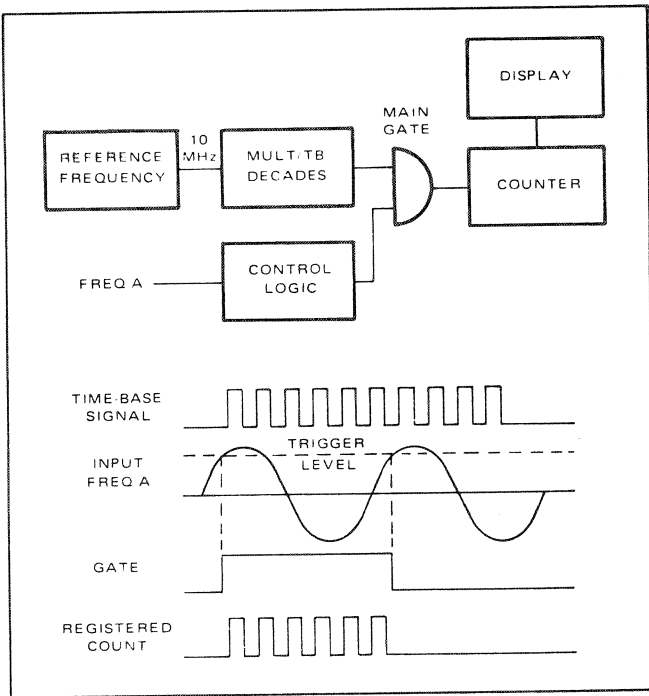

Figure 4.3 - Period Mode
4.13 Period is the inverse of frequency. Therefore, frequency A is applied to the control logic and the reference frequency is connected to the multiplier/timebase decades (figure 4.3).